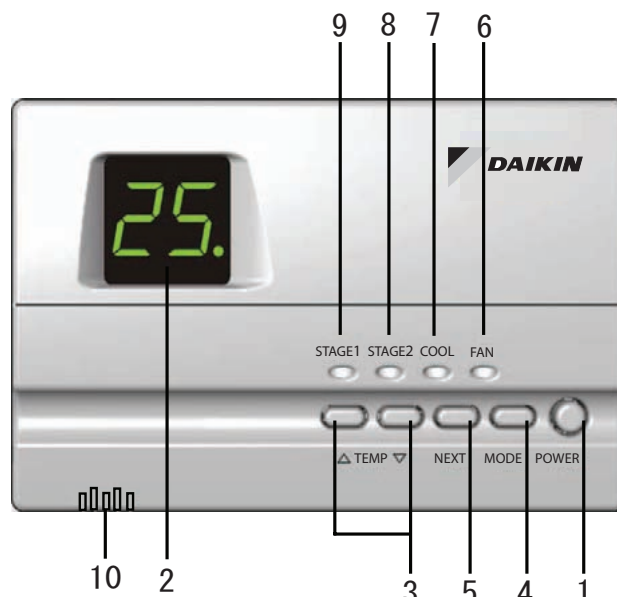

FIG. 1
2.1.3 Names and functions of the operating section (Fig. 1)